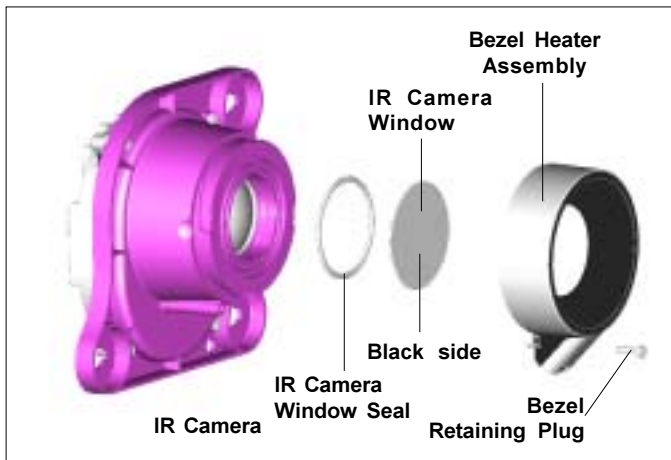

FIGURE 27 - BEZEL HEATER ASSEMBLY AND RETAINING PLUG
4. Lay the IR camera face-up for easier access to the bezel retaining plug. Refer to Figure 27.